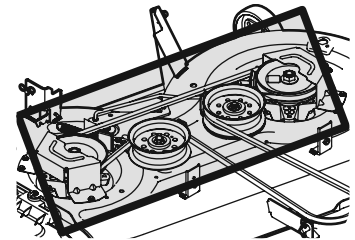

Figure 33
- Clean the top of the tractor deck, under the spindle covers and belt area. See Figure 33.